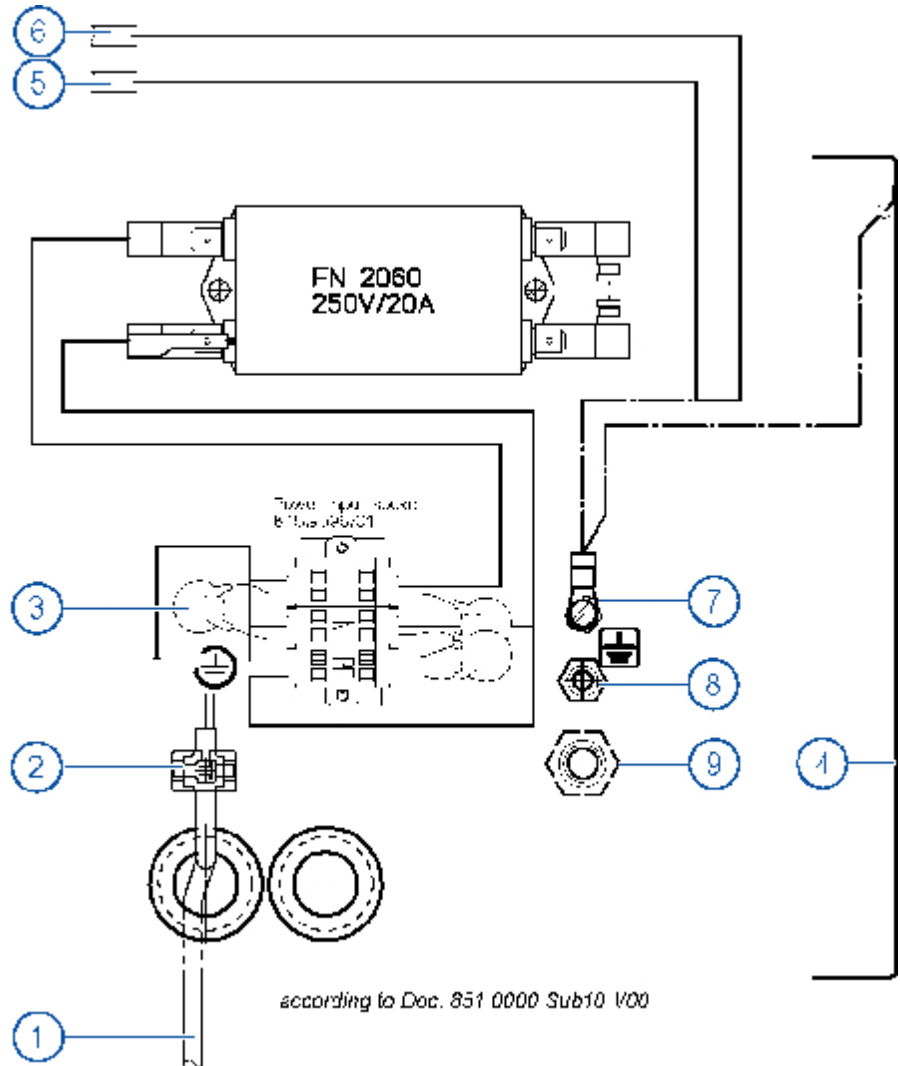

Figure 6: Cable layout for individual TVM
- 3 Open the cover and connect the cable to the terminal as shown in Figure 6, making sure that the polarity is correct.
- 5 Make sure that there is a ground cable connecting the pedestal with the TVM housing; connect it to pos 7, 8 or 9 in Figure 6.